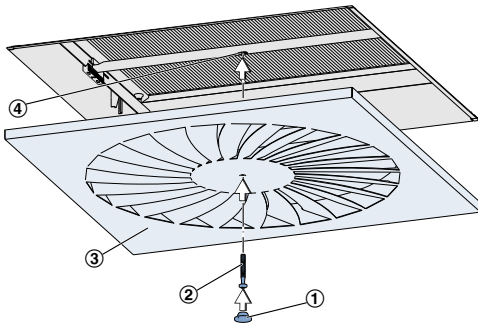

Fig. 7: Installing the diffuser face
2. ▶ Set the diffuser face (Fig. 7/3) onto the filter casing and fix it with the central fixing screw (Fig. 7/2). In the process, the central fixing screw can simply be inserted into the holding fixture (Fig. 7/4).
3. ▶ Put the decorative cap (Fig. 7/1) on the central fixing screw.